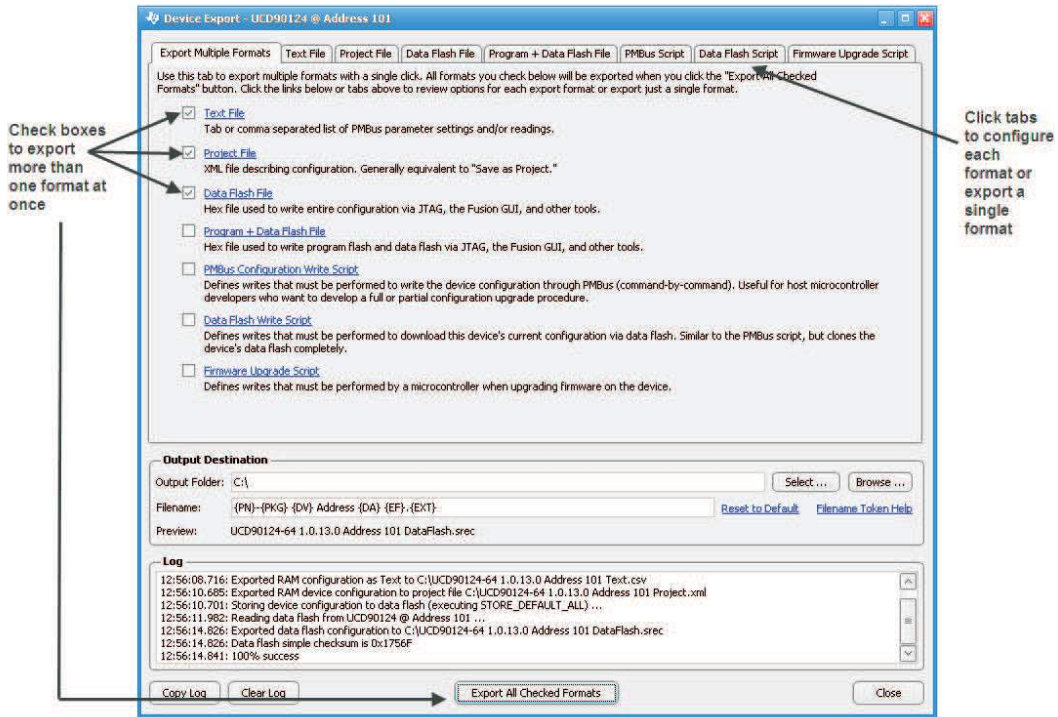

Figure 30. Fusion GUI Device Configuration Export Tool
3. Another in-circuit programming option is for the *Fusion GUI* to create a data flash image from the configuration file (Figure 30). The configuration files can be exported in Intel Hex, Serial Vector Format (SVF) and S-record. The image file can be downloaded into the device using I2C or JTAG. The *Fusion GUI* tools can be used on-board if the *Fusion GUI* can gain ownership of the target board I2C bus.